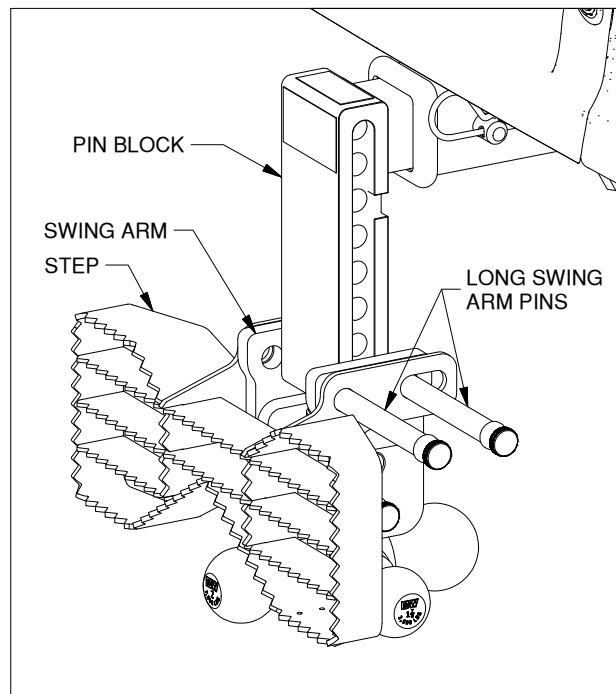

Figure B2: Long pin placement.
2. **Prepare the step:** With the swing arm pins removed and the swing arm hanging freely, place the step over the swing arm and insert the long pins through one side of both the step and the swing arm to hold them together, as shown in Figure B2.